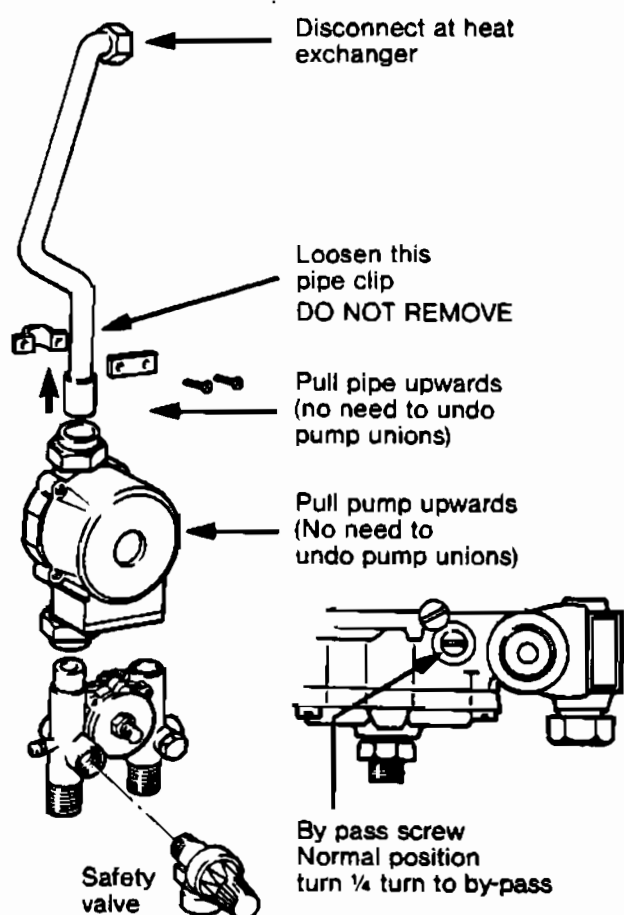

Fig. 37
8.12 To remove pump Part no 6120 fig 49 Refer to fig 37